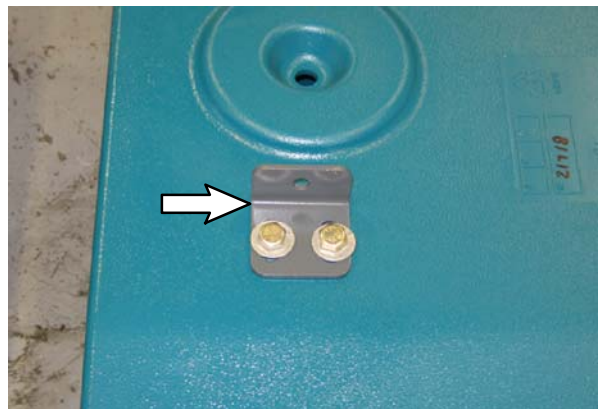

FIG. 54
69. Use two hex screws (51) and two flat washers (19) to install the top cover bracket (56) onto the top cover (81). (Fig. 54)